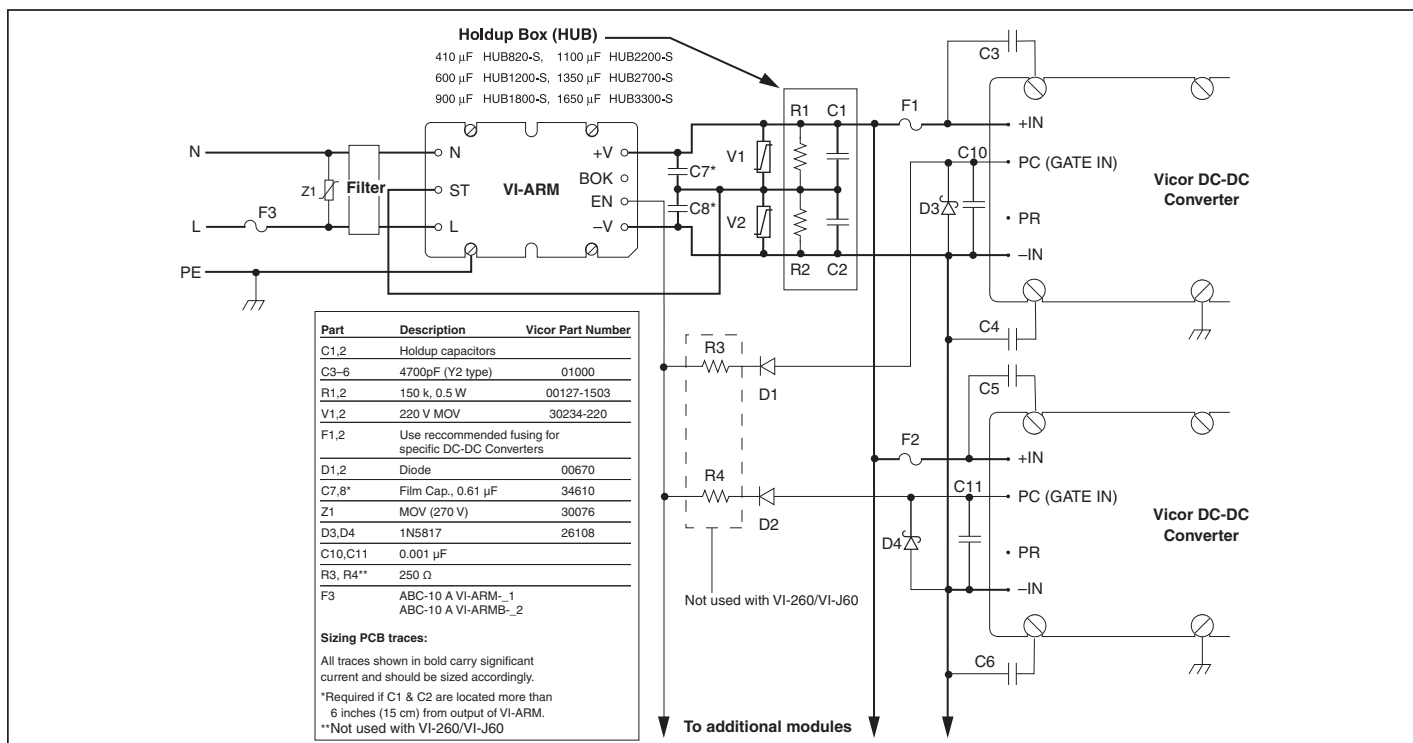

Figure 10 — Converter connections
**Strap (ST) Pin.** In addition to input and output power pin connections, it is necessary to connect the Strap pin to the junction of the series holdup capacitors (C1, C2, Fig. 10) for proper (autoranging) operation. Varistors across the capacitors provide input transient protection. The bleeder resistors (R1, R2, Fig. 10) discharge the holdup capacitors when power is switched off.
It should be noted that the series combination (C1, C2, Fig. 10) requires each capacitor to be twice the calculated value, but the required voltage rating is reduced to 200 V.